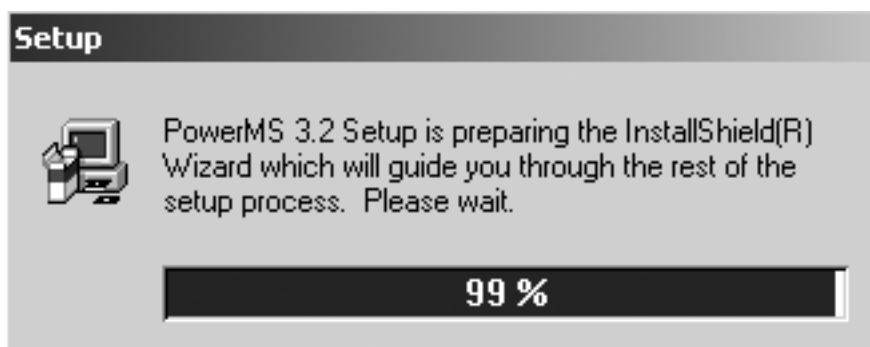

Fig. 3-2 The Initialization of the Installation
3.2.1 Insert the Array software CD into the CD-ROM drive, double-click My Computer => Array CD => PowerMS => Setup.exe to start the installation, the Fig. 3-2 will be displayed.